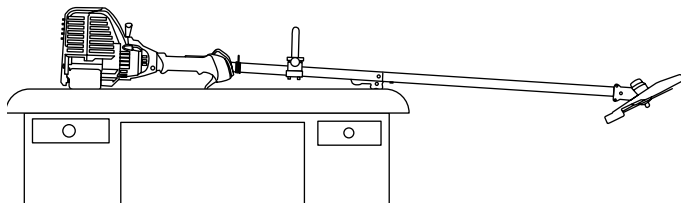

Fig. 39
2. Place the engine on a flat, level surface with the cutting head shield hanging off a work bench or table to get a proper oil level reading (Fig. 39).